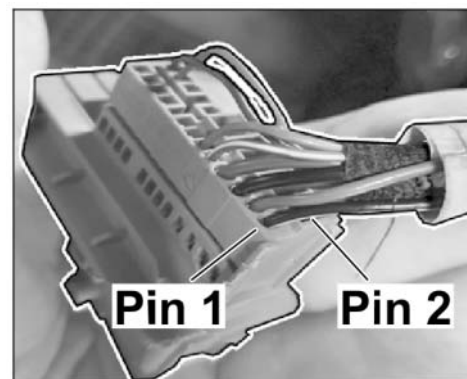

Figure 21
- 2.19 Plug wiring harness into connector for door on vehicle side. Release connector. **Green connector, pin 1 ⇒ Figure 21 -Pin 1-: Black/violet cable. Green connector, pin 2 ⇒ Figure 21 -Pin 2-: White/violet cable.**